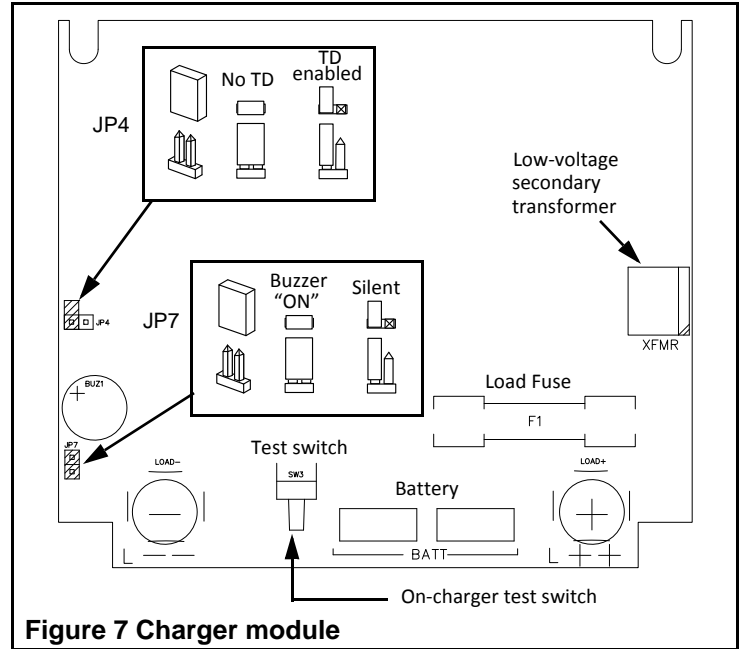

Figure 7 Charger module
15. **On-charger manual test**: the unit also has a test button installed on the charger module located on the bottom of the unit (See figure 7). This is useful during maintenance, with the unit door open. The button performs the same functions as the remote control.
The Time Delay feature can be enabled or disabled in the field with the following procedure (See figure 7):
The audible service alarm can also be permanently disabled in the field by disconnecting the jumper JP7 (See figure 7).